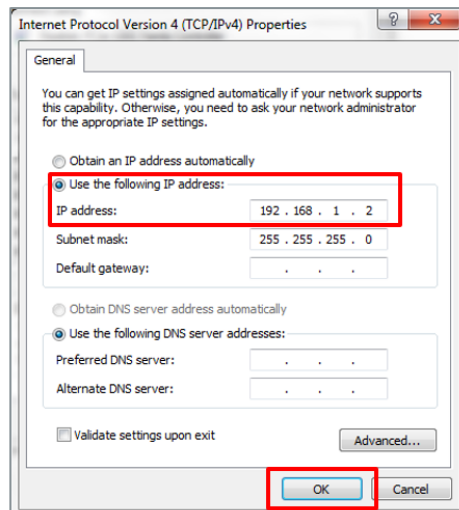

Figure 4-19: Enter IP Address
6. Click to select the radio button next to **Use the following IP address**, which will allow you to populate the IP address and Subnet mask fields. In the **IP address** enter **192.168.1.2**, and click **OK**, Figure 4-19.